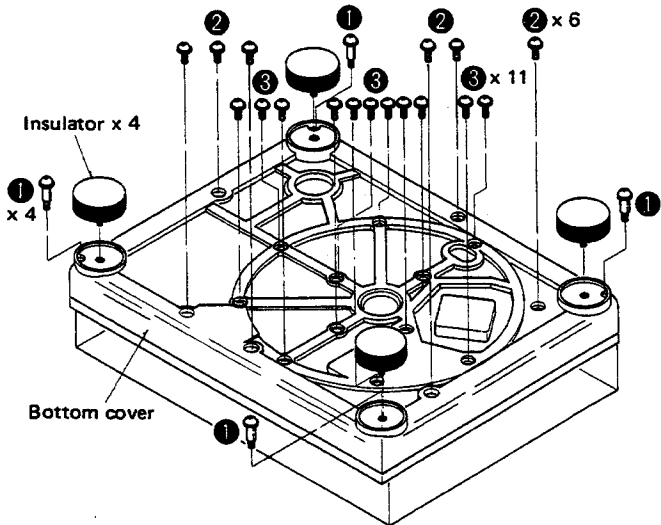

Fig. 1
- 3. Remove the insulators and the 21 setscrews (Fig. 1 : ①,②,③) of the bottom cover.